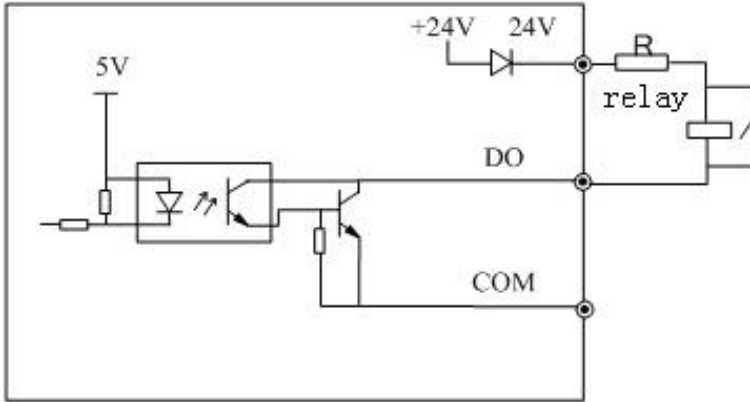

Fig 2-25 Wiring method 1 of DO as switching output
1) Multi-function output terminals DO as switching output can use the internal 24V power supply of inverter and the wiring method is shown in Figure 2-25.